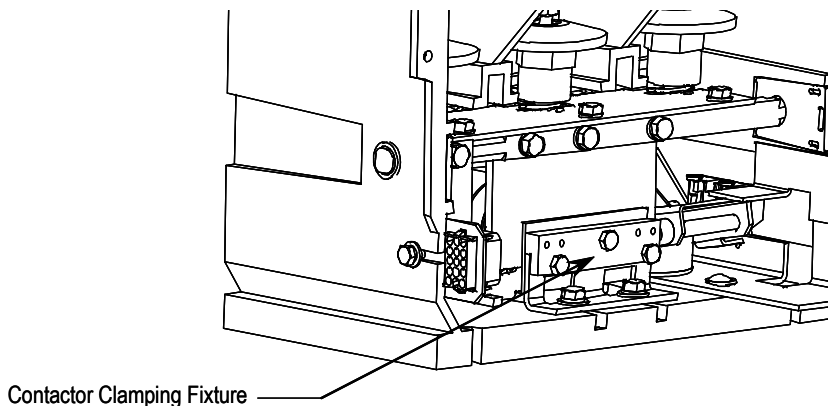

Figure 4.14 – Clamping Contactor Closed
2. Slide the clamping fixture (part number 80154-149-51) over the top of the armature stop bracket, Figure 4.14. Finger-tighten the two outside fixture mounting bolts against the armature stop bracket. You may have to push the armature plate a little to the rear to put the clamp in place.